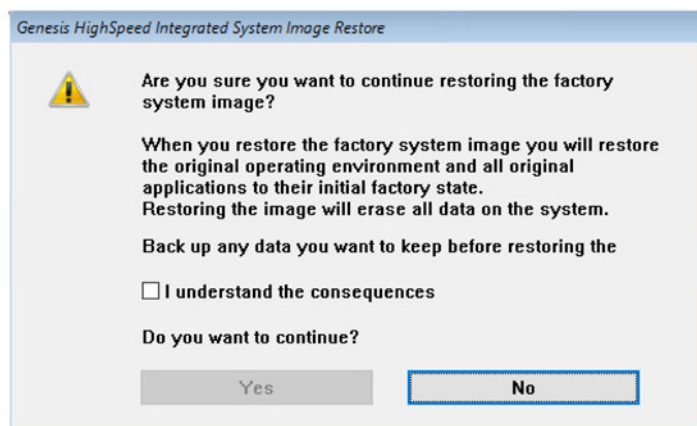

Figure G.28: Genesis HighSpeed Integrated System Image Restore
- 4 When the message about the consequences of the restore appears (see Figure G.28), press the TAB key to check that the keyboard is recognized (this can take a few seconds).